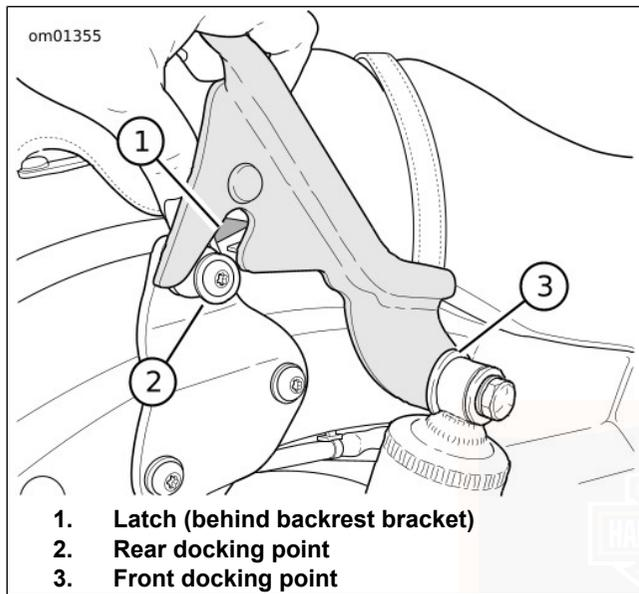

Figure 69. Passenger Backrest
1. See Figure 69. Using your thumb, push in the spring loaded locking latch and pull the swivel latch rearward.
1. See Figure 69. Slide the front of the backrest bracket into front docking point.